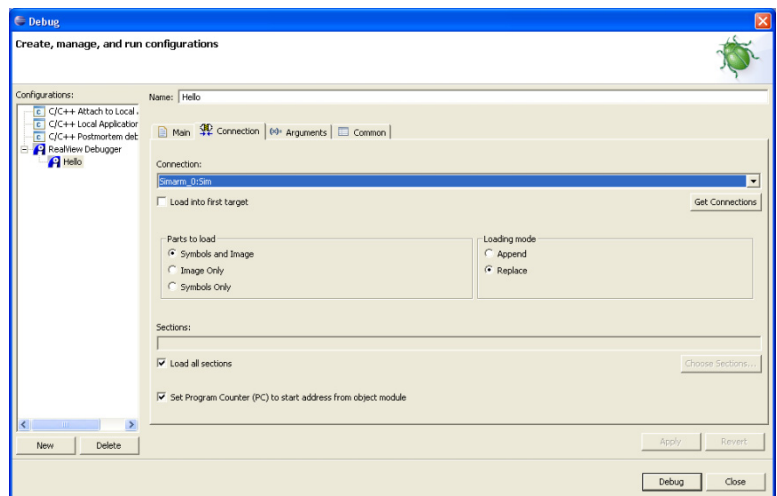

Figure 7-1 Debug panel
7. When the workbench connects to RealView Debugger, it opens the **Connection** tab in the workbench Debug dialog box. If you have more than one target connection to RealView Debugger, deselect the **Load into first target** option. The available target connections are visible in the **Connection** drop-down list. Select the connection you want to use (see Figure 7-1). Modify the load settings as your require. See *Configuring RealView Debugger connection settings* on page 7-5.